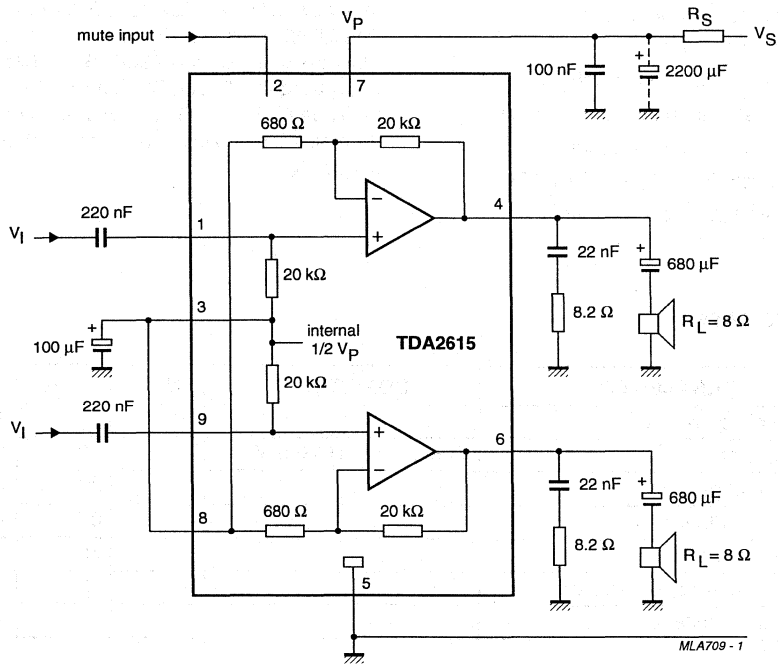

Fig.5 Test and application circuit with asymmetrical power supply.
- $V_P = 24$ V; $R_L = 8 \Omega$; $T_{amb} = 25$ °C; $f = 1$ kHz; asymmetrical power supply $I_{MUTE} < 30 \mu$ A. See Fig.5